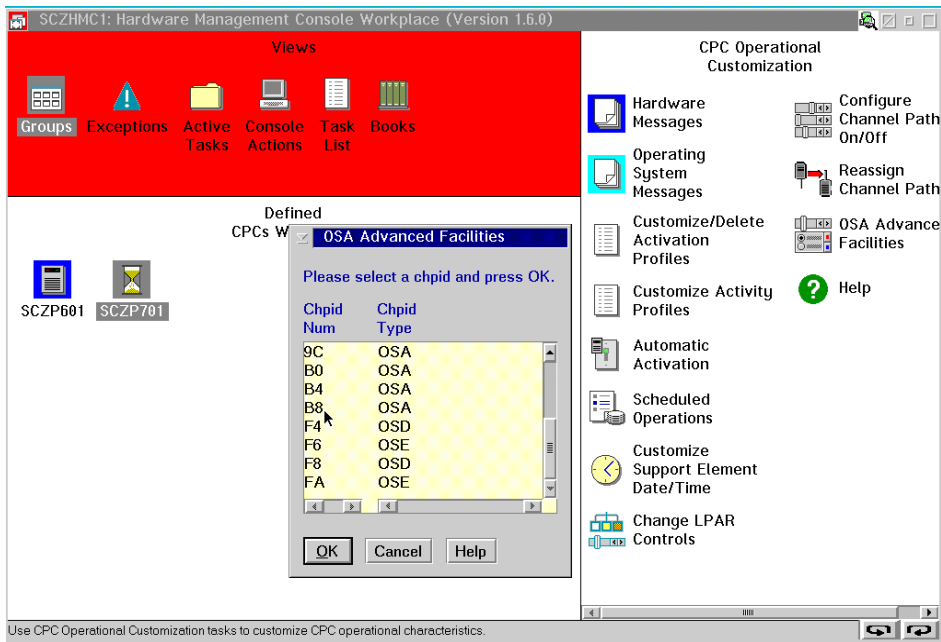

Figure B-1 HMC OSA advanced facilities panel
4. A pull-down menu with all OSA-adapters (OSA-2 and OSA-Express) appears at the HMC console, as shown in Figure B-1 on page 183.